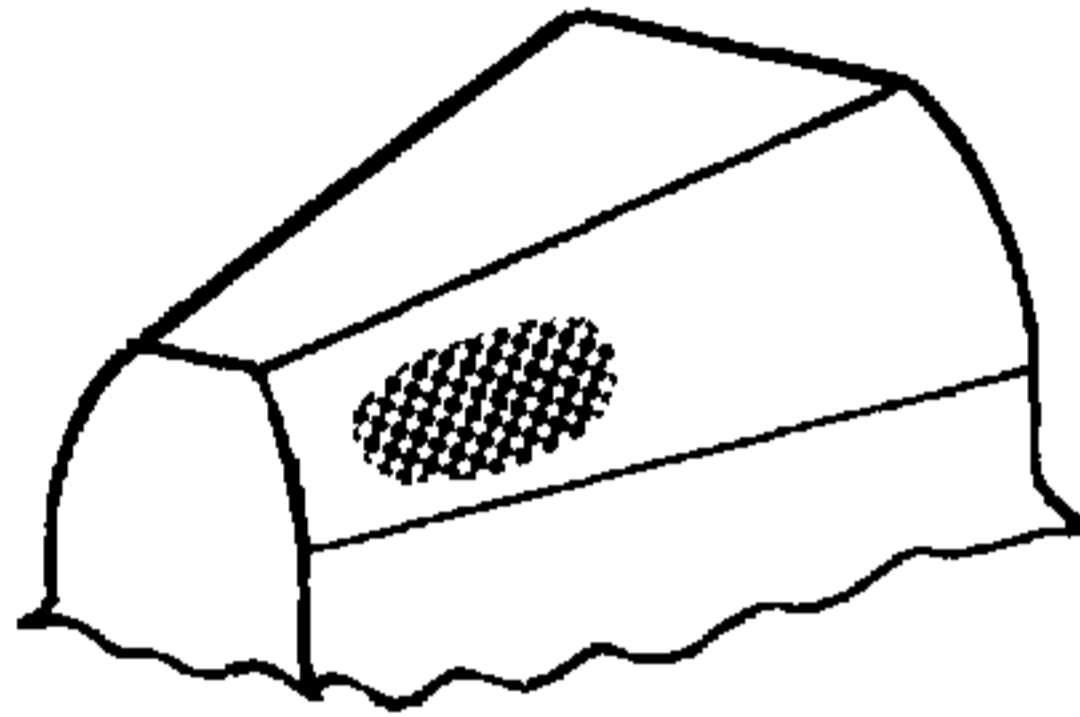
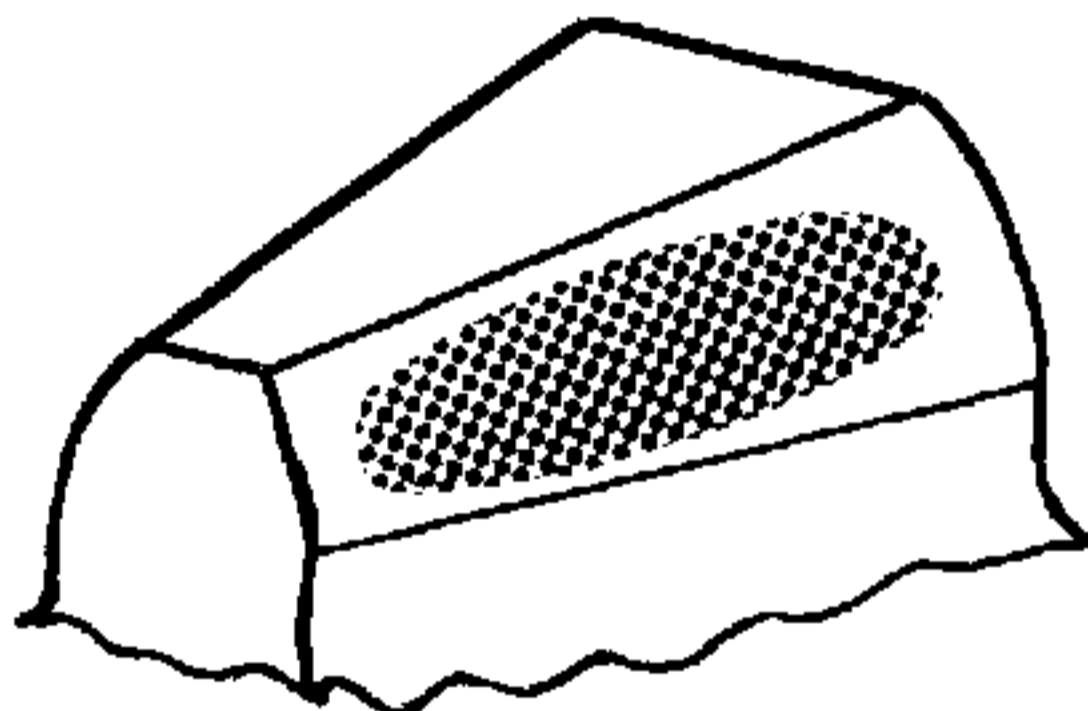

Figure 5-78D. Ideal Ring Gear Tooth Contact Pattern.
Figure 5-78E. Elongated Ring Gear Tooth Contact Pattern.
- c. Ring gear tooth contact check – brush gear with red oxide or rub on a thin coat of prussian blue. Hand roll testing should produce a pattern as shown in Figure 5-78D. In use, when load and deflection increase, the pattern will elongate as shown in Figure 5-78E.